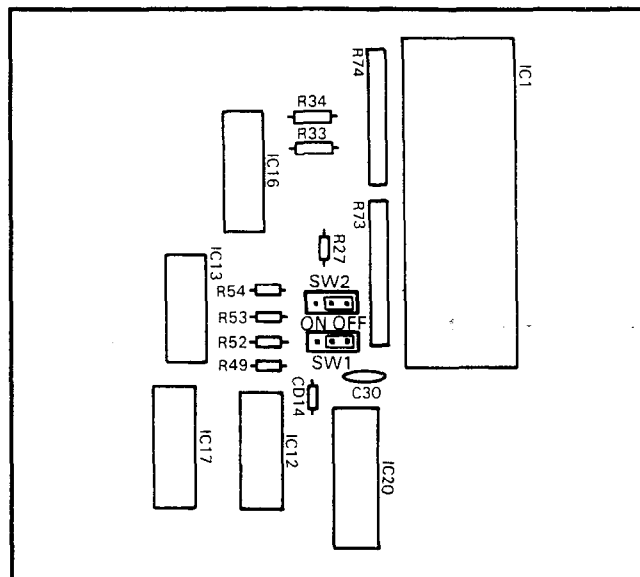

FIGURE 12
05.22 Remove the HOXB cover and locate the two operational mode straps on the HOXB PCB (mounted to the HOXB base). As shown in Figure 12, the straps are located in the center of the PCB (**SW1** controls the operation of OPX telephone #1; **SW2** controls OPX telephone #2). Set each switch to ON for dial pulse (DP) or OFF for DTMF (MF) tone output, as required. After setting the straps, reinstall the cover and secure it to the base.